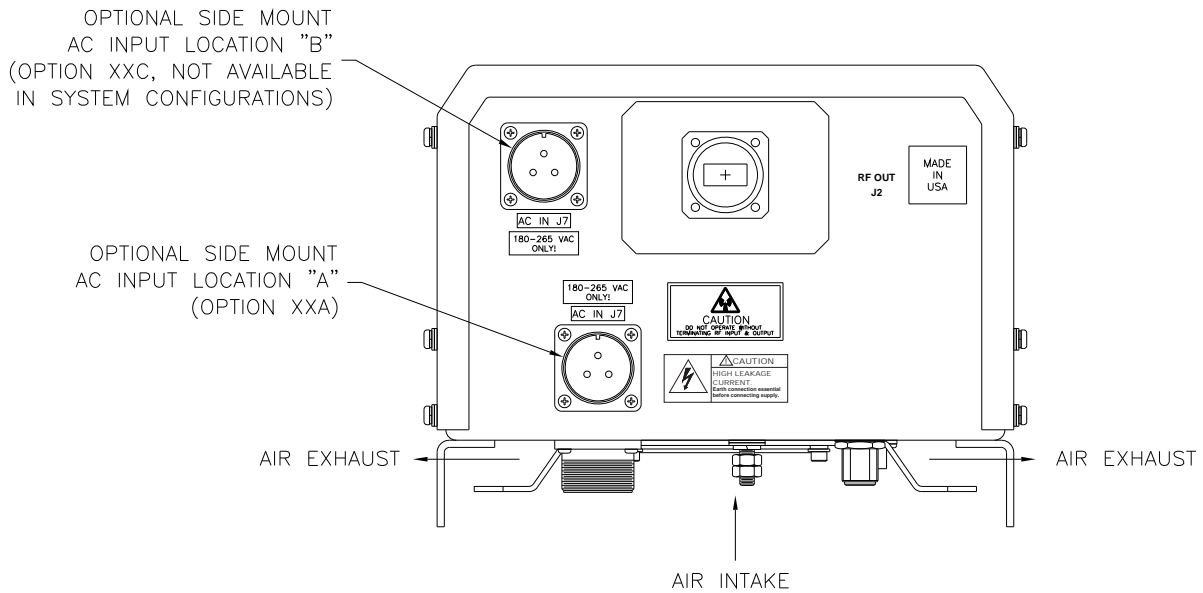
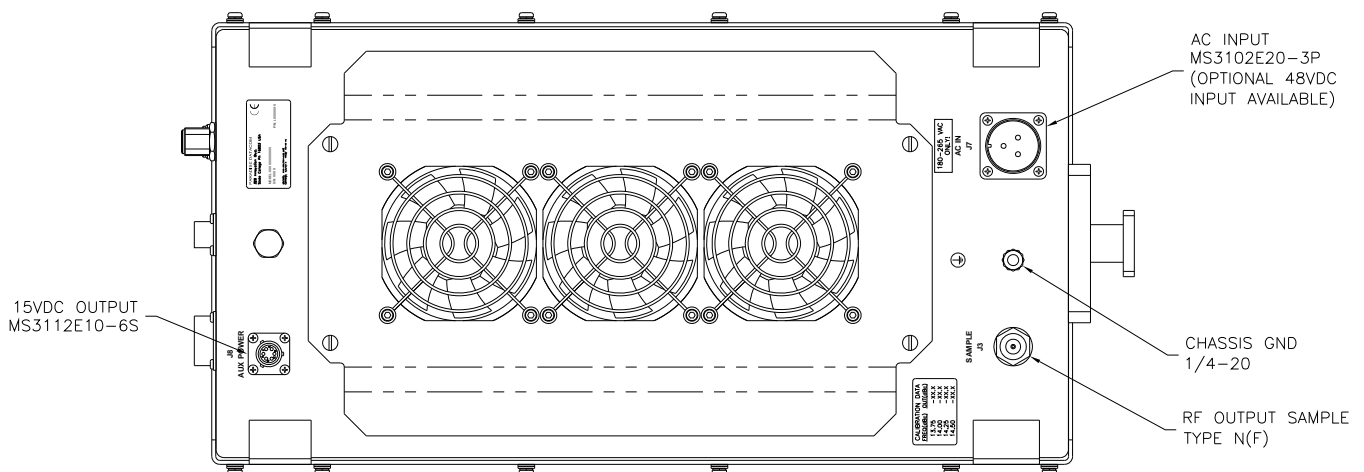

Figure 2-3: RF Output Side of Ku-Band Compact Outdoor SSPA
Figure 2-4: Bottom View, Compact Outdoor Amplifier
The RF Output is brought out through waveguide in the Compact Outdoor Amplifier. **Figure 2-3** shows the output of a C-Band Compact Outdoor Amplifier. The Ku-Band amplifiers have a WR75 grooved flange, while the C-Band and X-Band amplifiers have CPR style grooved flanges (CPRG-137 for C-Band; CPRG-112 for X-Band). Ka-Band amplifiers utilize a WR28 grooved flange. S-Band units are fitted with Type N (F) connectors at the RF Output.
The RF Output Sample port, J3, is located on the bottom of the amplifier as shown in **Figure 2-4**. This connector provides a -40 dBc sample of the amplifier's output signal. It is a N-type female connector.
The AC Input connector, J7, is located on the bottom side of the Compact Outdoor Amplifier package (see **Figure 2-4**). There are also two alternate placements for this connector on the RF Output end of the amplifier as shown in **Figure 2-3**. This connector is a 3-pin circular connector, MS3102E20-3P. The mating connector (MS3106E20-3S) is shipped with the unit. The pin out for this connector is given in **Table 2-3**.
The 15 VDC Output, J8, is located on the bottom side of the amplifier as shown in **Figure 2-3**. This provides +15 VDC and up to 1 Amp current to any external equipment. It is a 6-pin MS-type connector (see **Table 2-6** for pin-outs) and mates with MS3116F10-6P.
The cooling system is based on a forced convection technique in which the system fans provide the air intake while the exhaust is brought out around the outer perimeter of the fans. The air intake and exhaust are both located on the bottom side of the amplifier. The intake is brought through three fans while the exhaust is along the two rows of heatsink fins as seen in **Figure 2-3**.